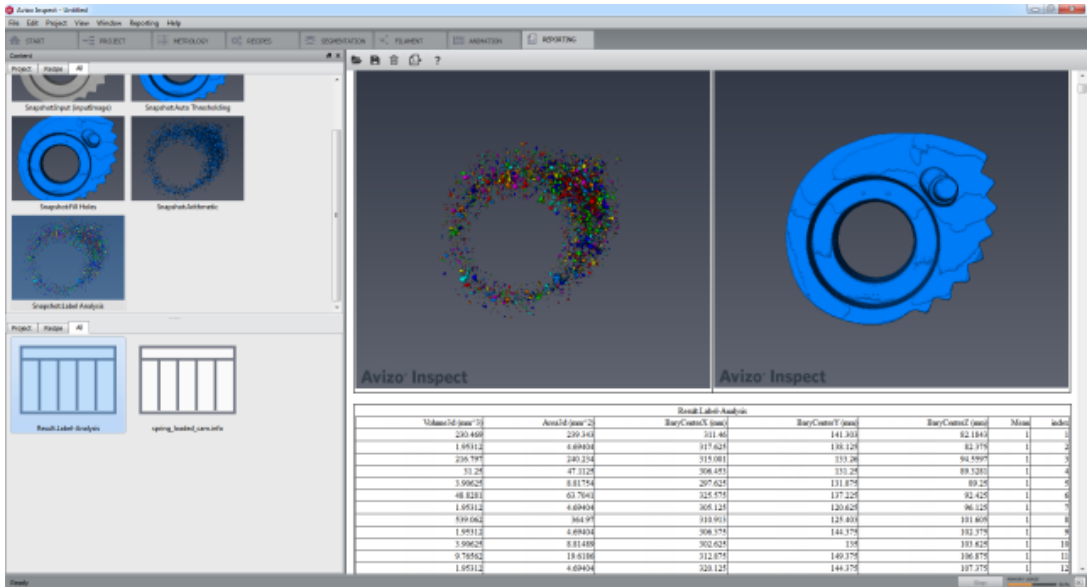

Figure 16.6: Report Example
7. Snapshots and tables can then be dragged-and-dropped to each frame of the template. Once this association is complete, the snapshots and tables will be automatically updated in the template each time the recipe is played. Once the association has been set, the template can be saved as a new template. This new template can be reloaded in Avizo and will be populated automatically each time the associated recipe is played (see Figure 16.6).